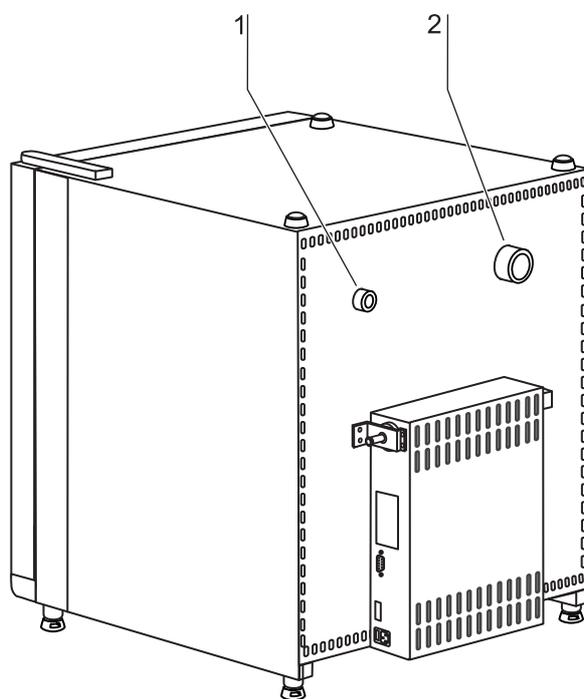

Fig.9: Rear panel openings
**Fig.9:** A sealable access port [1] allows cables, hoses or additional sensors to be routed into the work space of the device. A pressure compensation opening with insert [2] at the rear panel of the device allows a compensation between the pressures in the work space and in the operating room.